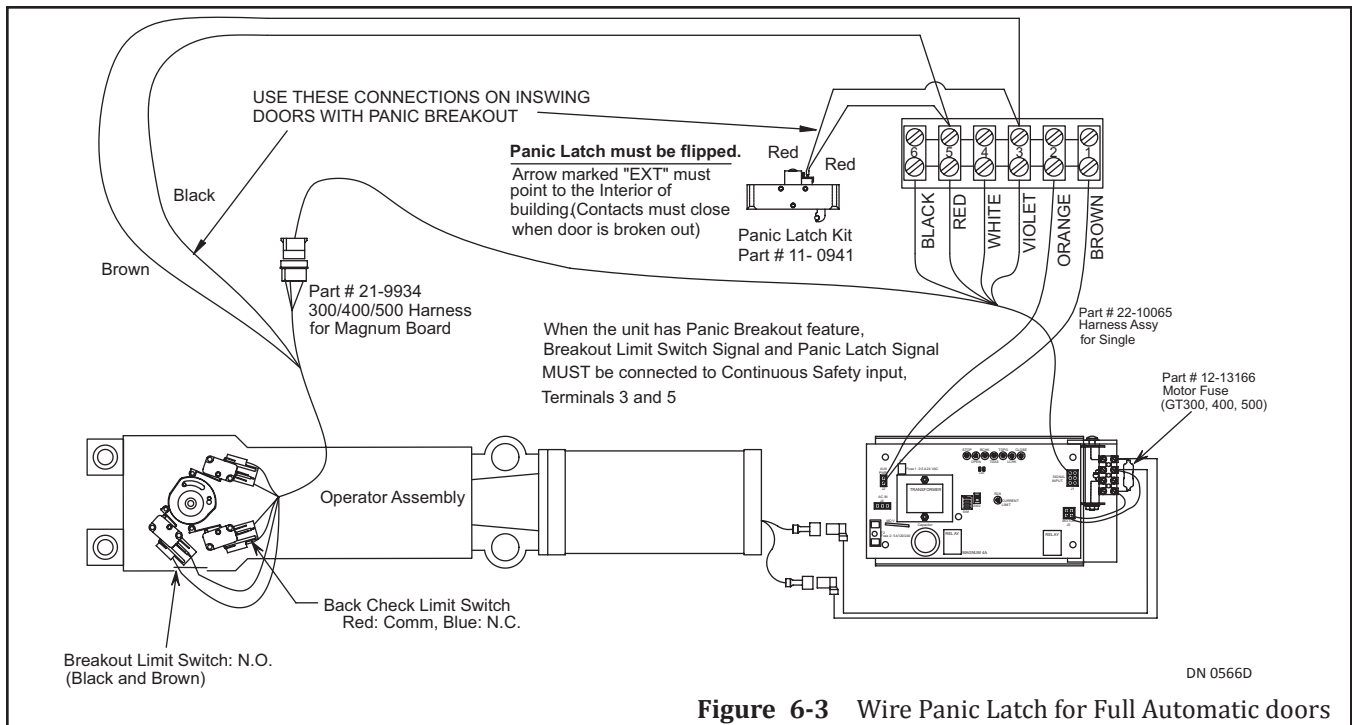

Figure 6-3 Wire Panic Latch for Full Automatic doors
9. Insert (Brown) wire into Pole 3 (Continuous Safety). Please see Figure 6-3.
14. Insert Red wires into Pole 3 (Continuous Safety) and into Pole 5 (Common). Please see Figure 6-3.